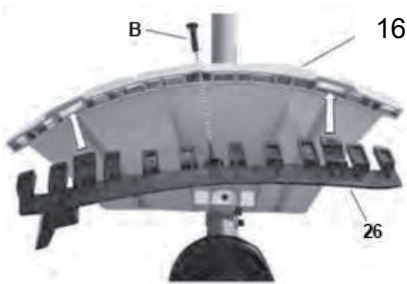

Fig.3-3
1. When using the cutting line head, the additional guard with line cutting knife, must always be fitted. (Fig.3-3, Fig.3-4)
Secure the additional guard (26) using the screw (B). (Fig.3-3)